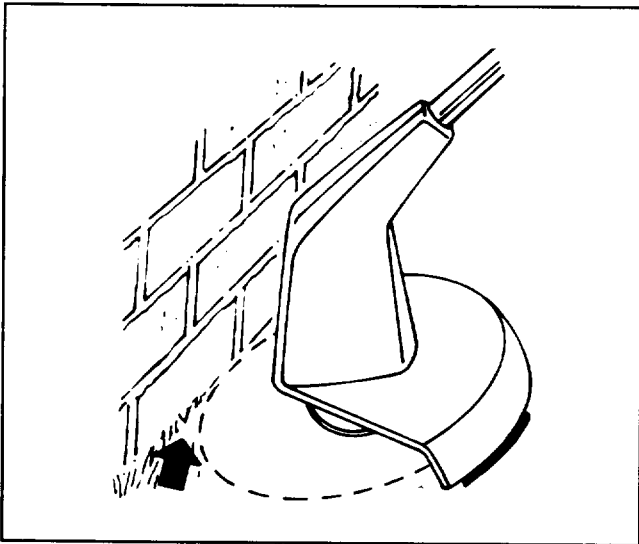

Figure 13
2. **DO NOT FORCE THE UNIT.** Allow the very *tip* of the nylon line to do the cutting (especially along walls) (Fig. 13). Cutting with more than the tip will reduce cutting efficiency and overload the motor.